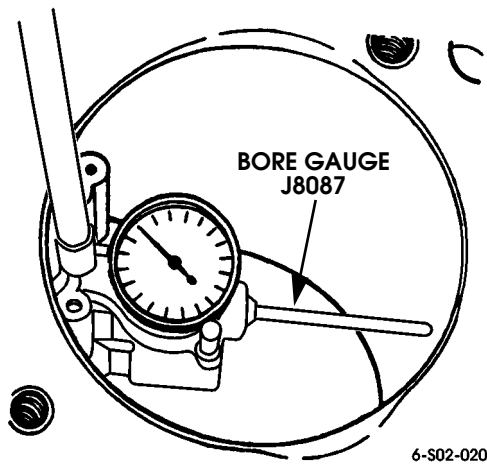

Figure 2-128: Measuring Cylinder Taper and Wear with Bore Gauge
Measure degree of wear and taper in each cylinder bore with bore gauge J8087 (Figure 2-128).
- b. Center the bore gauge in the cylinder and zero the dial indicator (Figure 2-128).